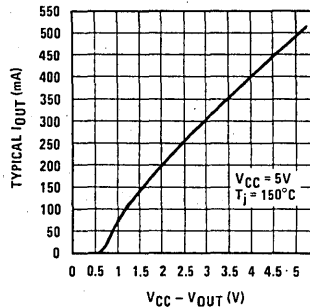

FIGURE 5. Typical I_{OUT} vs Typical V_{OUT}
*Strictly speaking, R_{ON} is a non-linear function of I_{OUT} . A typical R_{ON} characteristic at $T_j = 150^\circ\text{C}$ is shown in Figure 5. The non-linear characteristic near the origin is due to the fact that the output NPN transistor is not saturated. As soon as saturation is reached ($I_{OUT} \sim 150\text{ mA}$) the curve becomes a straight line which extrapolates back to the origin. For practical design purposes, it is sufficient to consider R_{ON} as a linear function of I_{OUT} .